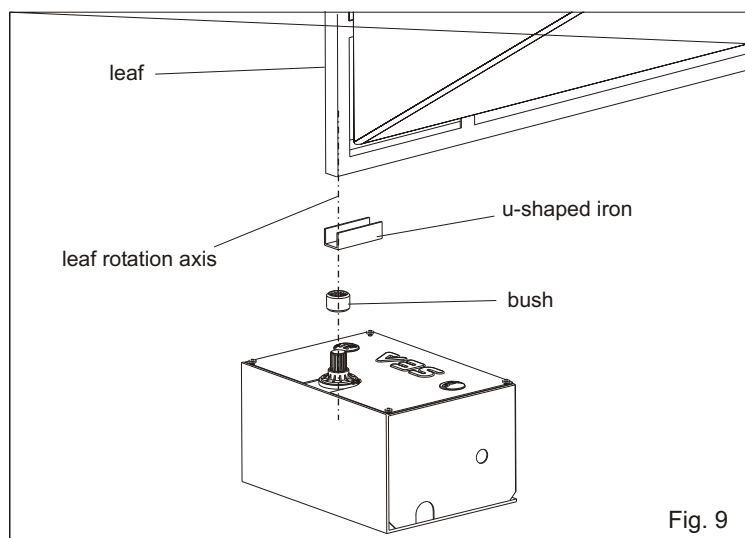

Fig. 9
3.2. Place the bush on the U-shaped iron referring to the rotation axis of the leaf hinge (Fig. 9);